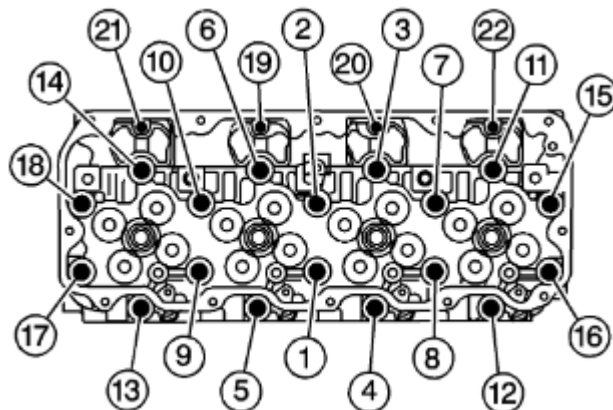

Fig. 67: Cylinder head torque sequence
- c. Install the four M8 bolts retained in step 27 of disassembly and removal into locations 19-22 in figure 67 onto both cylinder heads. Torque the bolts in ascending order to 18 ft-lb.